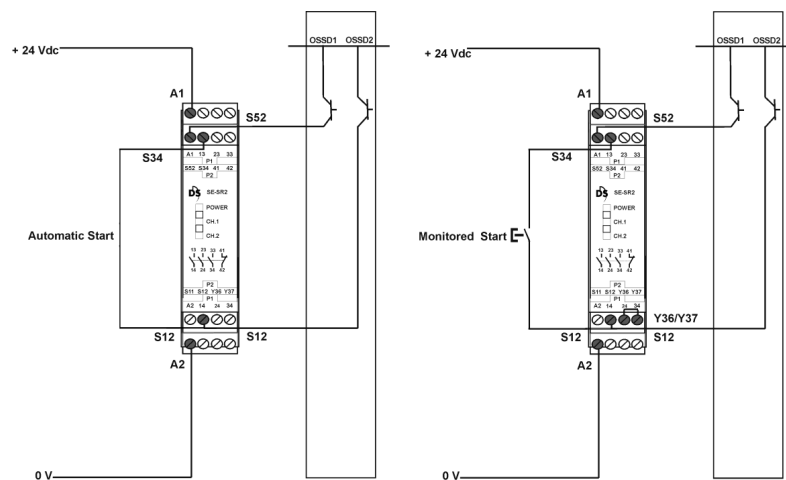

Fig.21 - Connection to safety relay
- The OSSD1 and OSSD2 safety contacts cannot be connected in series or in parallel, but can be used separately (Fig.21), conforming to the plant's safety requirements.